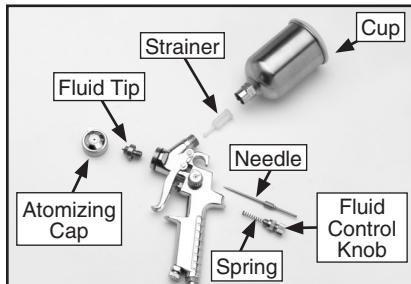

Figure 9. Disassembly for cleaning.
5. Unscrew the atomizing cap with your fingers and the fluid tip with the service wrench. The fully disassembled gun should look like Figure 9.